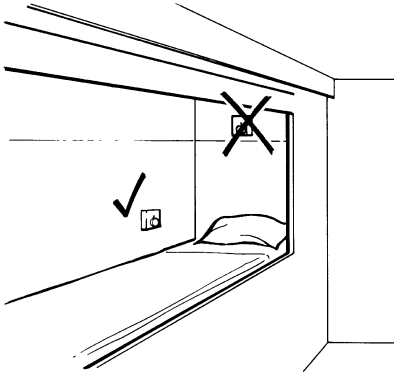

Figure 3-25 Thermostat Location
2. Locate the PROHEAT thermostat in a central area of the sleeper, approximately 12" above the bunk. Avoid direct air flow from sleeper fan ducts. (Figure 3-25)
3. Locate the PROHEAT thermostat in a central area of the sleeper, approximately 12" above the bunk. Avoid direct air flow from sleeper fan ducts. (Figure 3-25)
3. Locate PROHEAT thermostat in central area of sleeper, approximately 12" above the bunk. Avoid direct air flow from sleeper fan ducts. (See Figure 3-25.)